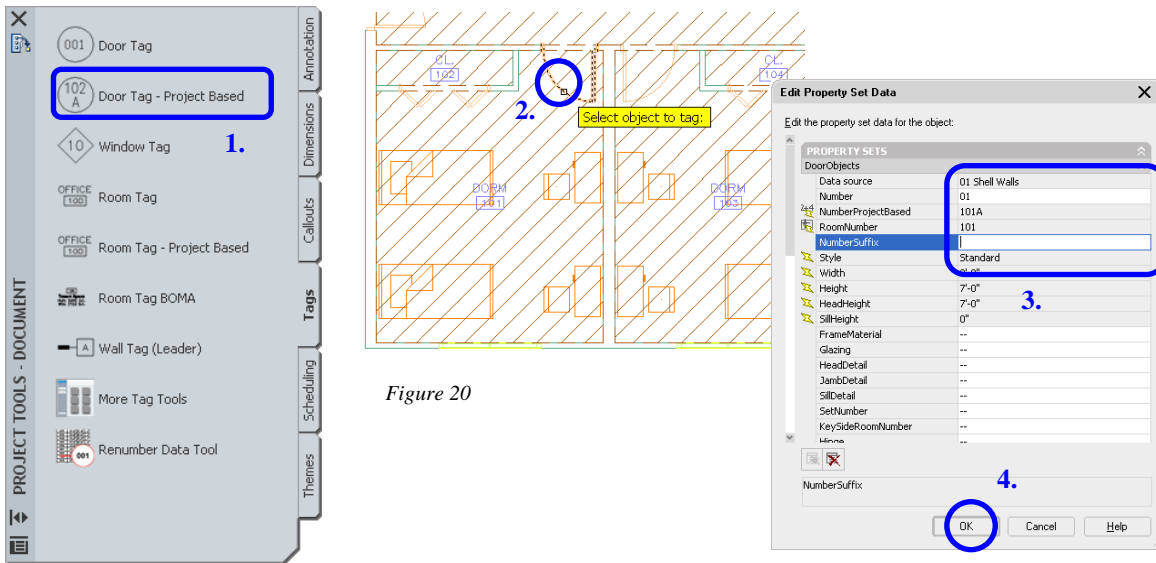

Figure 20
4. Click the **OK** button to continue. *Figure 20*